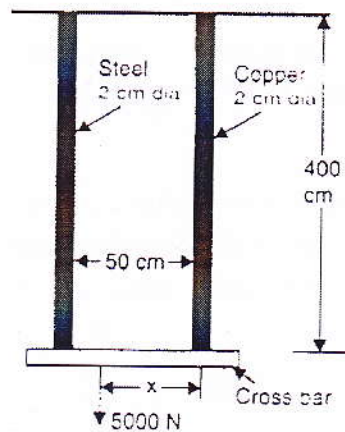

Fig. 1
- Q1) a) Two vertical rods one of steel and the other of copper are each rigidly fixed at the top and 50 cm apart as shown in Fig. 1. Diameters and lengths of each rod are 2 cm and 4 m respectively. A cross a bar fixed to the rods at the lower ends carries a load of 5000 N such that the cross bar remains horizontal even after loading. Find the stress in each rod and the position of the load on the bar. Take E for steel $= 2 \times 10^5 \text{ N/mm}^2$ and E for copper $1 \times 10^5 \text{ N/mm}^2$. [12]